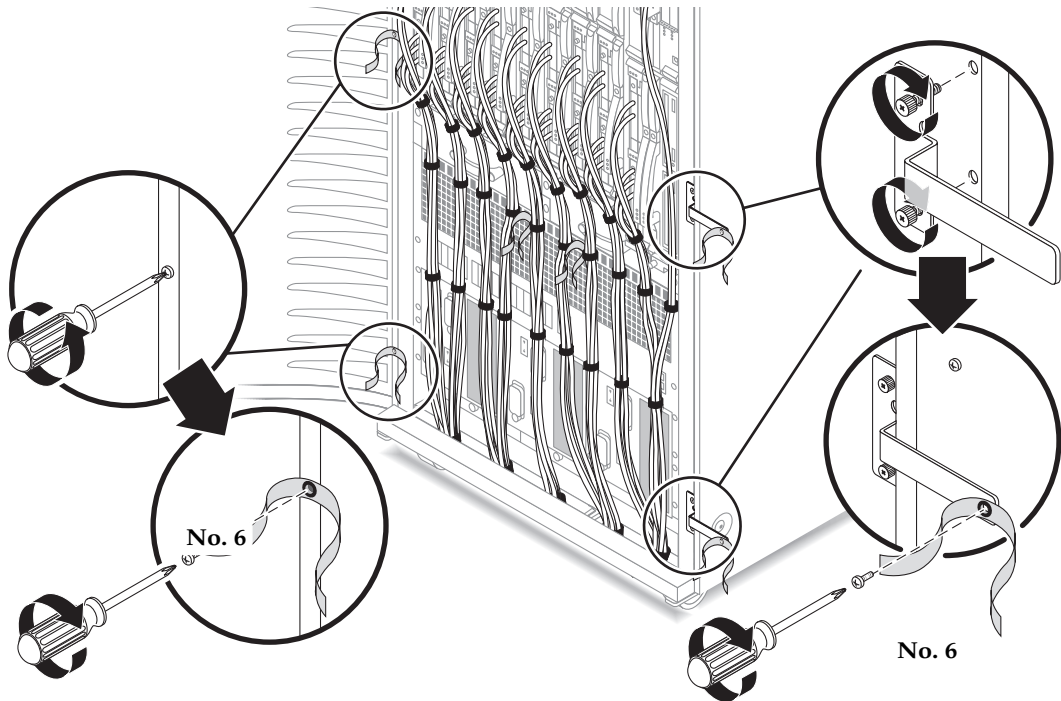

FIGURE 1-6 Installing the Maintenance Brackets and Straps
3. Use the screws recovered from Step 2 to secure two green cable straps (No. 6) to the holes opened in Step 2 (FIGURE 1-6).
4. Secure the two cable management brackets to the holes on the right side of the cabinet (FIGURE 1-6).
5. Use the included phillips screws to secure a green cable strap (No. 6) to the holes at the end of each of the cable management brackets (FIGURE 1-6).
2. **Secure the two cable management brackets to the holes on the right side of the cabinet (FIGURE 1-6).**
3. **Use the included phillips screws to secure a green cable strap (No. 6) to the holes at the end of each of the cable management brackets (FIGURE 1-6).**
5. Remove the cable management brackets and store them for future use (FIGURE 1-6).
4. Remove the cable management brackets and store them for future use (FIGURE 1-6).